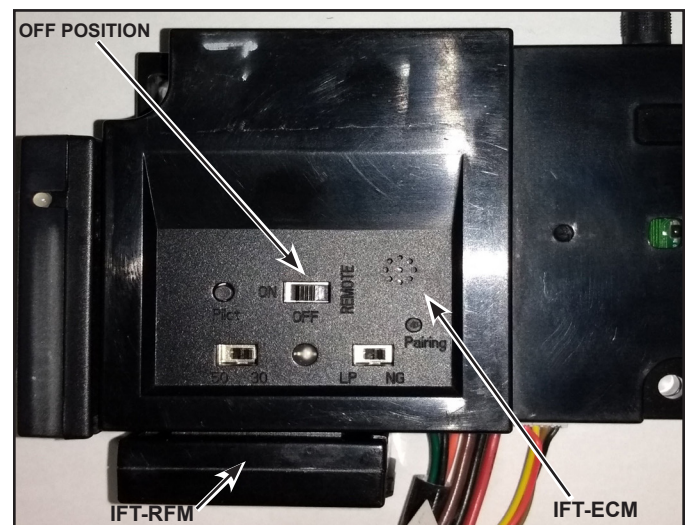

Figure 1 Connect IFT-RFM or IFT2-RFM to IFT-ECM
2. Verify the IFT-RFM or IFT2-RFM is already connected to the ECM. Connect the IFT-RFM or IFT2-RFM to the ECM by aligning the pins and tabs and pushing the RFM into the ECM until both tabs latch into position. Ensure the two components are fastened securely to one another. See Figure 1.